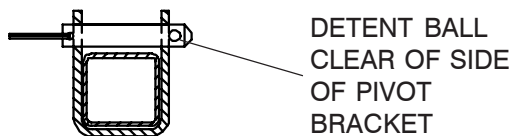

Figure 2-11. Correct Position of Locking Pin
1. Guardrail Locking Pin W/Lanyard - To fold the guardrail system down, remove the locking pin at each pivot point and lower each guardrail. To raise the guardrail system, swing up each guardrail and lock in place with the locking pins ensuring that the detent ball of each pin is clear of the side of the pivot brackets. (Figure 2-11.)